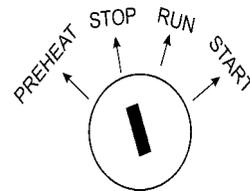

Figure 67. Off/Manual Auto Switch (OFF)
7. If the generator is equipped with an ignition switch, (Figure 67) turn the key to the left to the "OFF" positionturn off the engine.